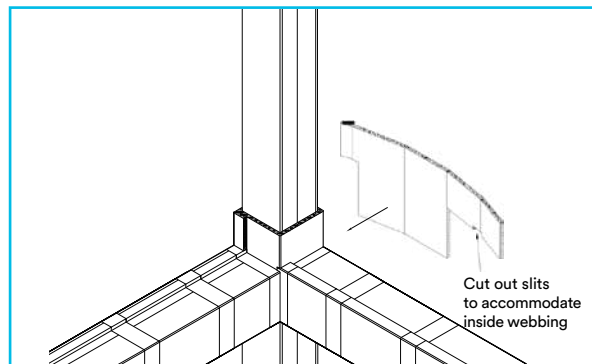

Figure 3
- 3 Once both beams are wrapped butting up to the column, begin wrapping the column. Make two cut-outs in the E-Mat to accommodate the beams. (*Figure 3*), the cut-outs should allow for a thin strip of E-Mat to overlap the interior seam between beams. Secure the E-Mat in place with filament tape. Note that the filament tape is for temporary hold only and therefore the amount of tape and spacing to be used is at the installer's discretion. Sections of E-Mat should be tightly abutted to each other (space between the two sections should be zero inches where possible). If a gap greater than 3 mm ($\frac{1}{8}$ in) exists, caulk the gap to the full depth of the wrap with 3M™ Fire Barrier Water Tight Sealant 3000 WT.